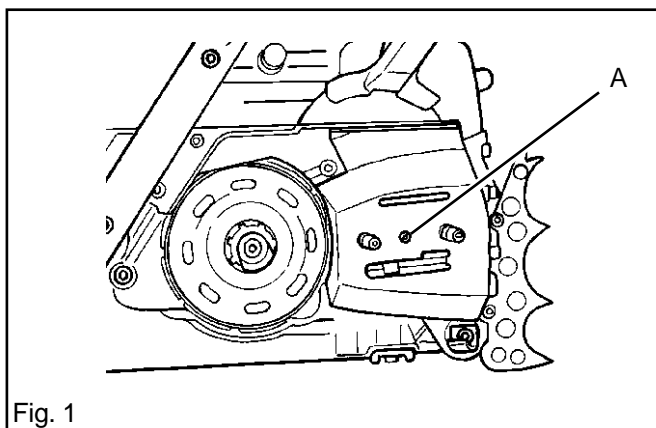

Fig. 1
2. Remove the chain guide-plate by removing the bolt (A). See fig. 1.